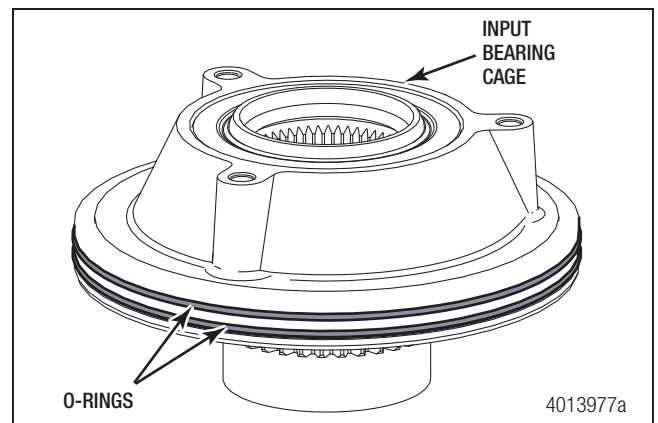

Figure 6.32
- Lubricate and install two new o-rings. Figure 6.32.